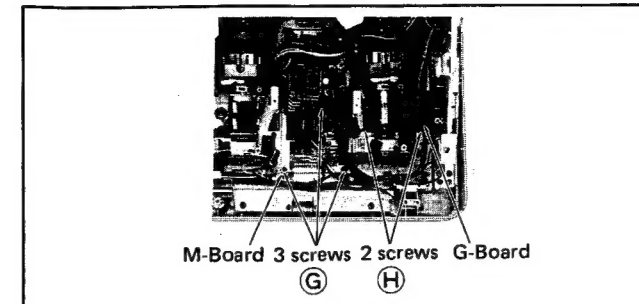

Fig. 8
- Remove 3 screws (G) in fig. 8.
- Remove 2 screws (H) in fig. 8.